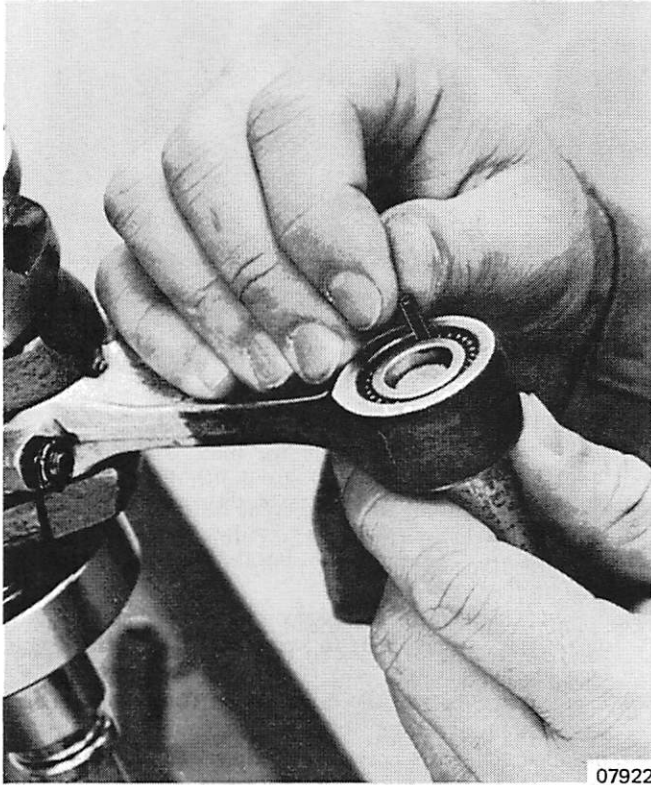

Figure 5. Installing Piston Pin Bearings
15. Install retainer and piston pin bearings on Tool C-91-30766A1. Leave one bearing out. Push bearings and tool into race. Install last bearing and top retainer (Figure 5) on opposite side of rod. Place piston over bearing assembly (watch intake side of piston). Hold bearings in place with sleeve part of tool. Heat piston to 125° to 135° F.